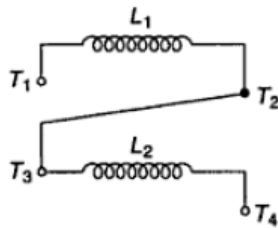

Fig. 3.41 Connection of two coils, 1st case
3.61 Two coils with terminals T_1, T_2 and T_3, T_4 respectively are placed side by side. Measured separately, the inductance of the first is $1200 \mu\text{H}$ and that of the second coil is $800 \mu\text{H}$. With T_2 joined with T_3 (Fig. 3.41), the total inductance between the two coils is
Let the mutual inductance between the two coils be M , then total inductance $L_1 + L_2 + 2M$. In the first case (refer (Fig. 3.41))